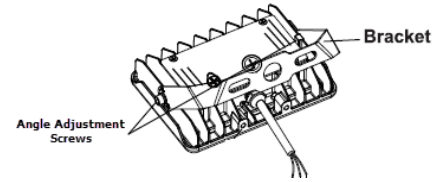

Figure 3
- 8: Loosen (2) angle adjustment screws on both sides of fixture. (5mm) (Figure 3)